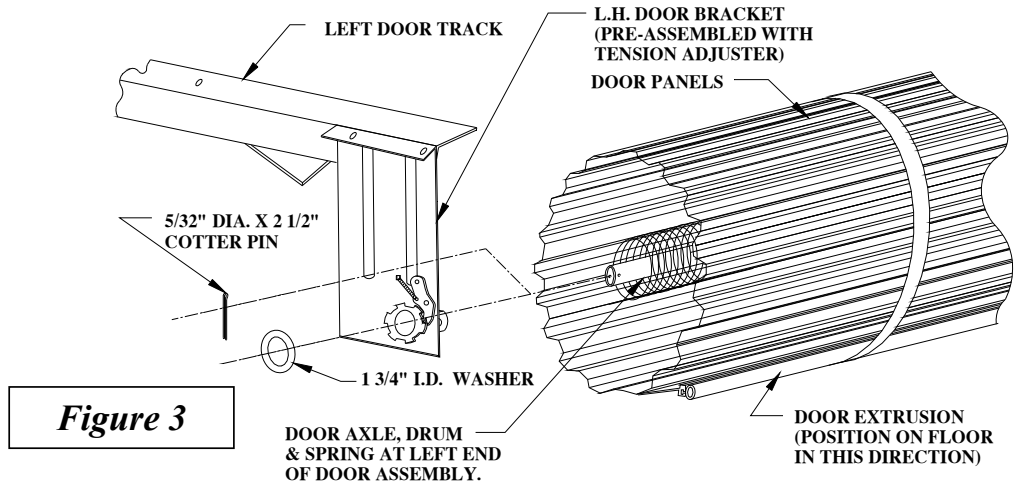

Figure 3
STEP 4. Slide DOOR BRACKET ASSEMBLY onto the end of the AXLE as shown in Figure 3. Slide AXLE WASHER in place over AXLE and install COTTER PIN into AXLE through the hole provided to
secure the DOOR BRACKET ASSEMBLY. (NOTE: Locate DOOR EXTRUSION as shown in Figure 3 for STEP 5). The location of the door extrusion is critical for proper mounting and spring tension.